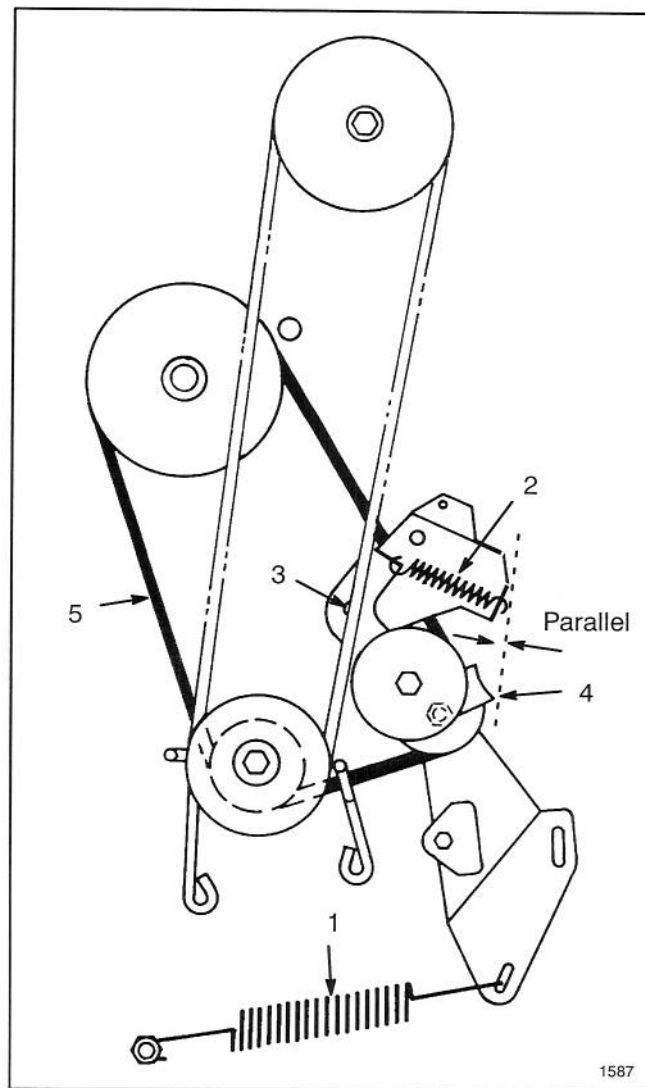

Figure 19
7. Unhook large traction spring from mounting screw (Fig. 19). Use caution when removing spring as it is heavily tensioned.
8. Unhook idler spring from idler bracket (Fig. 19).
9. Remove locknut and washer securing idler bracket to frame and remove bracket (Fig. 19).
10. Loosen the locknut on pulley until belt guide can be removed (Fig. 19). Remove belt from all pulleys.
Note: When reinstalling belt guide to idler pulley, make sure edge of belt guide is parallel to frame as shown in Figure 19.